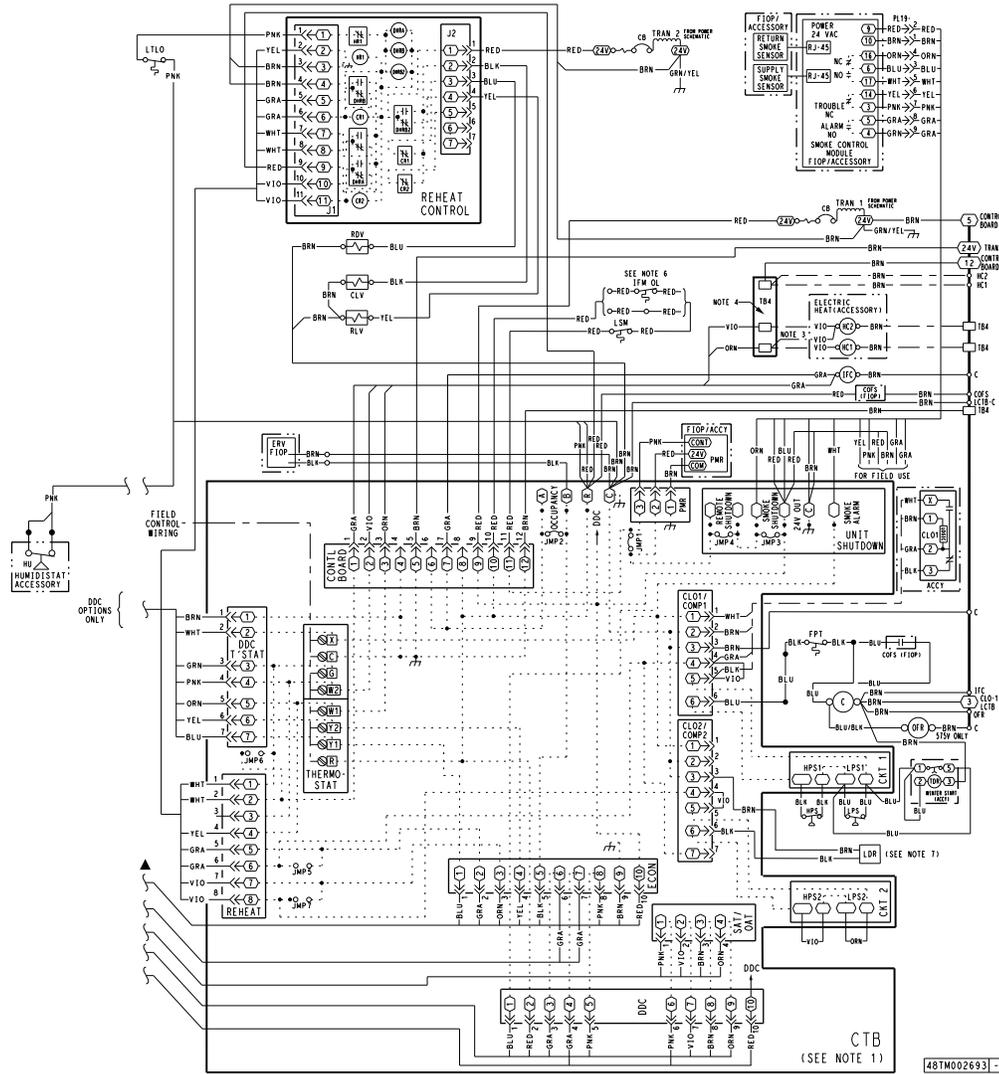

Fig. 40 — Typical Humidi-MiZer® Adaptive Dehumidification System Humidistat Wiring
3. Use wire nuts to connect humidistat cable to the leads in the low-voltage wiring (as shown in Fig. 40), connecting PNK to PNK and PNK/BLK to PNK/BLK.